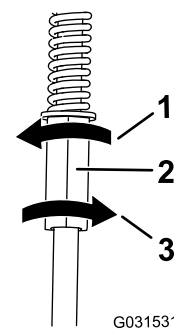

Figure 53
4. Rotate the left control rod in quarter-turn increments until the machine tracks straight (Figure 53).